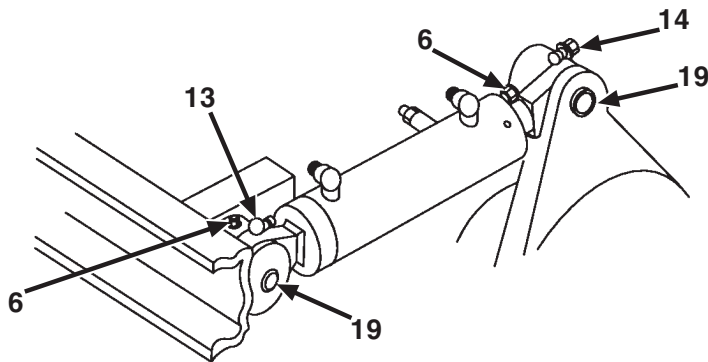

Figure 74. Track Adjusting Cylinder Locknuts.
Step 5 and 6 applies to Figure 74.
5. Tighten locknuts (item 6) to 19 to 31 lb-ft (39 to 42 N•m).
6. Lubricate bearings (item 19) with grease at lubrication fittings (item 13 and 14).